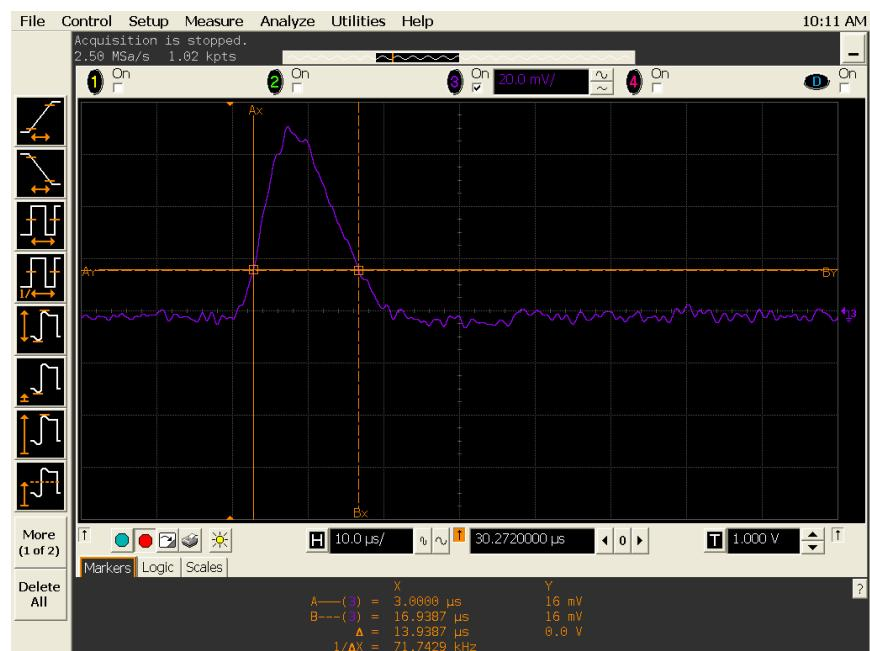

Figure 5-4 Graph of load transient response
- 7 Adjust the oscilloscope to display transients as shown in Figure 5-4. Note that the pulse width ( $t_2-t_1$ ) of the transients at 15 mV from the base line is no more than 50  $\mu$ s for the output.